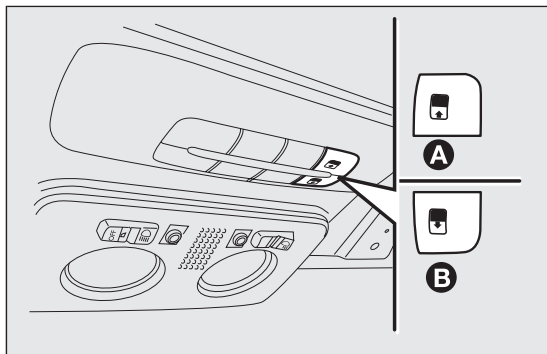

fig. 80
To close them, carry out the procedure in reverse. The sun roof can be operated only with the ignition key turned to MAR-ON. The controls A and B fig. 80 on the trim next to the front roof light operate the sun roof opening/closing functions.
Press and hold down button B fig. 80. The front glass panel will move into the spoiler position; press button B once again and hold down for more than half a second to automatically move the sun roof to an intermediate position (“Comfort” position).
With the roof in the fully open position, press button A fig. 80 and, if the button is operated for more than half a second, the front roof glass with automatically assume the intermediate position (“Comfort” position).
- press button A fig. 80 until the roof is completely closed. Release the button;